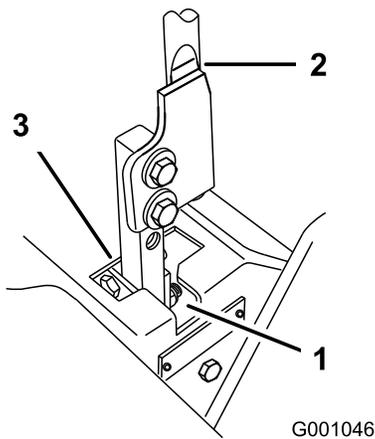

Figure 70
5. Move the lever to the neutral position but not locked (Figure 70).
6. Pull the lever back until the clevis pin (on arm below pivot shaft) contacts the end of the slot (just beginning to put pressure on the spring) (Figure 70).
7. Check where the control lever is relative to notch in console (Figure 70). It should be centered allowing lever to pivot outward to the neutral-lock position.